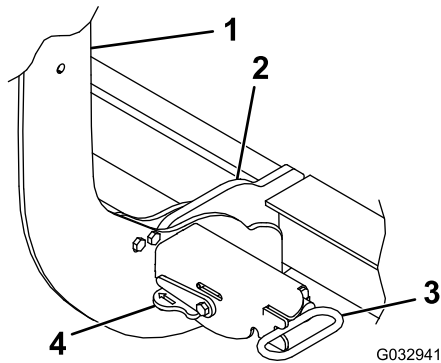

Figure 35
4. Turn the levers on the spring pins to the UNLOCK position (Figure 35).